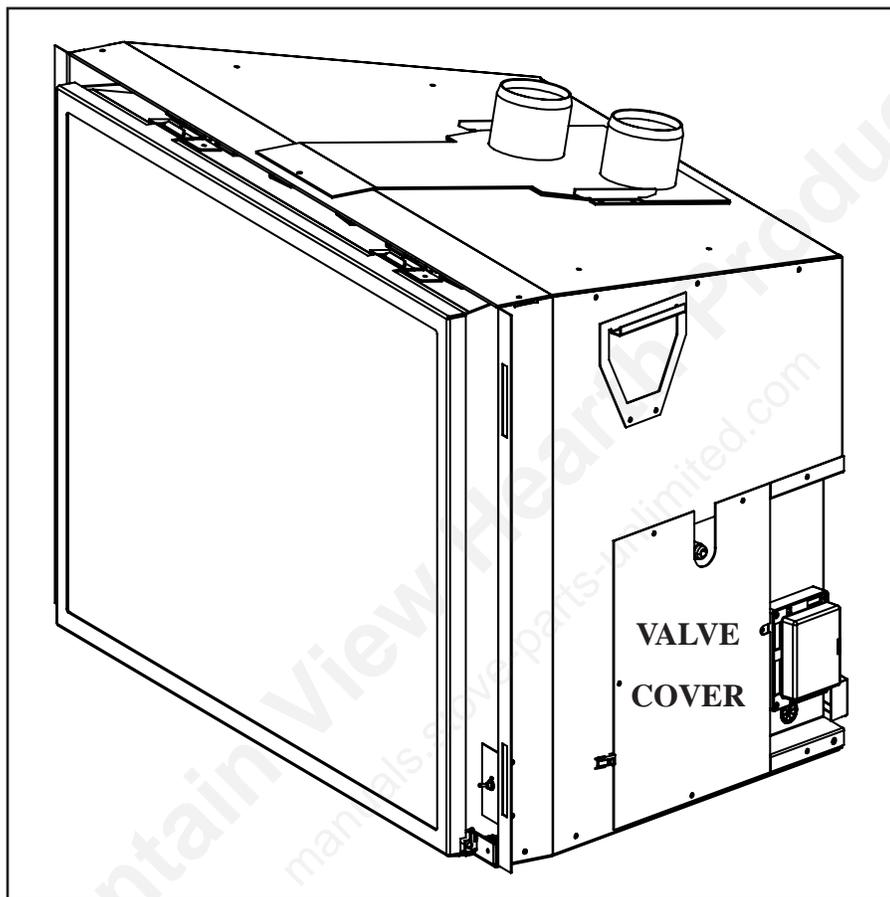

Figure 21: Valve Cover.
1. Use a T-20 screwdriver to remove the four screws that hold down the valve cover shown in Fig. 21.